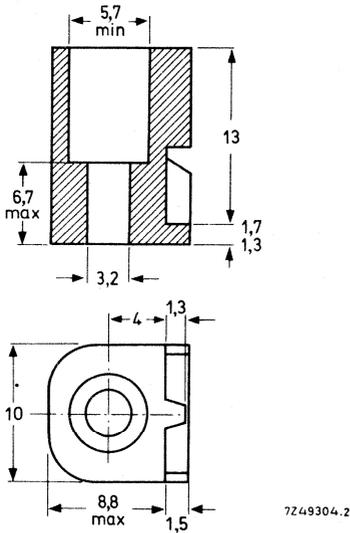
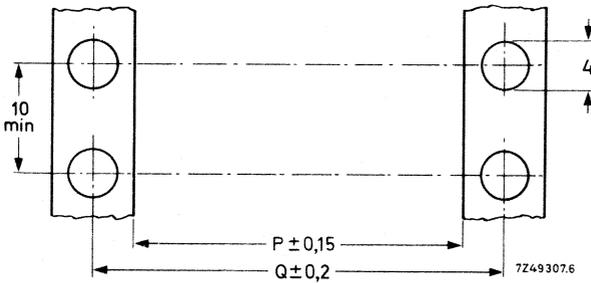

Fig. 3 Thermoplastic mounting bracket
Fig. 7 Piercing diagram for rail mounting; $P = L_{\max} + 7 \text{ mm}$, $Q = L_{\text{nom}} + 13,4 \text{ mm}$. For L_{nom} and L_{\max} see Table 1.
- thermoplastic bracket, catalogue number 4332 026 06560 (Figs 3 and 4);
In Figs 7 and 8, piercing diagrams are given for connectors with mounting brackets as shown in Figs 3 and 5.